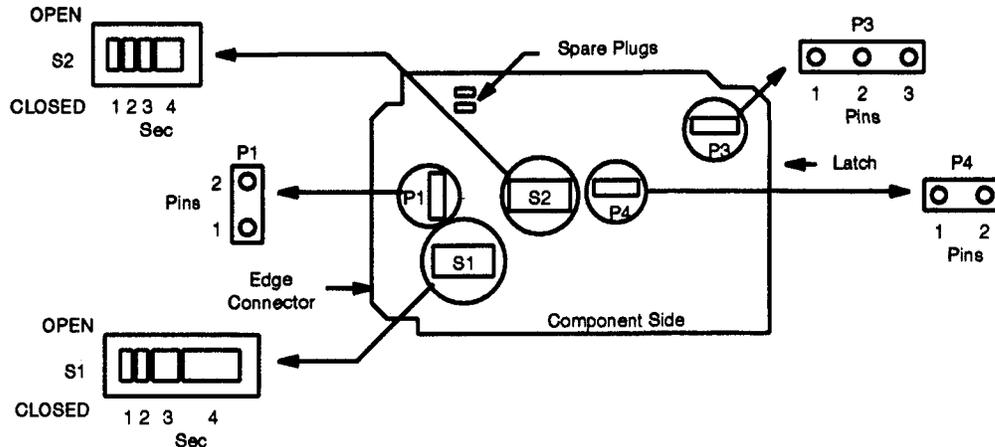

Figure 2. MXR2 (AKM2B)/MXR3 (AKM2C) OPTION SETTINGS
18. Refer to **Figure 2** and set the option switches on the **AKM2B MXR2** or **AKM2C MXR3** as indicated in **Table C**.
20. Refer to **Figure 2** and install the option plugs on the **AKM2B MXR2** or **AKM2C MXR3**.